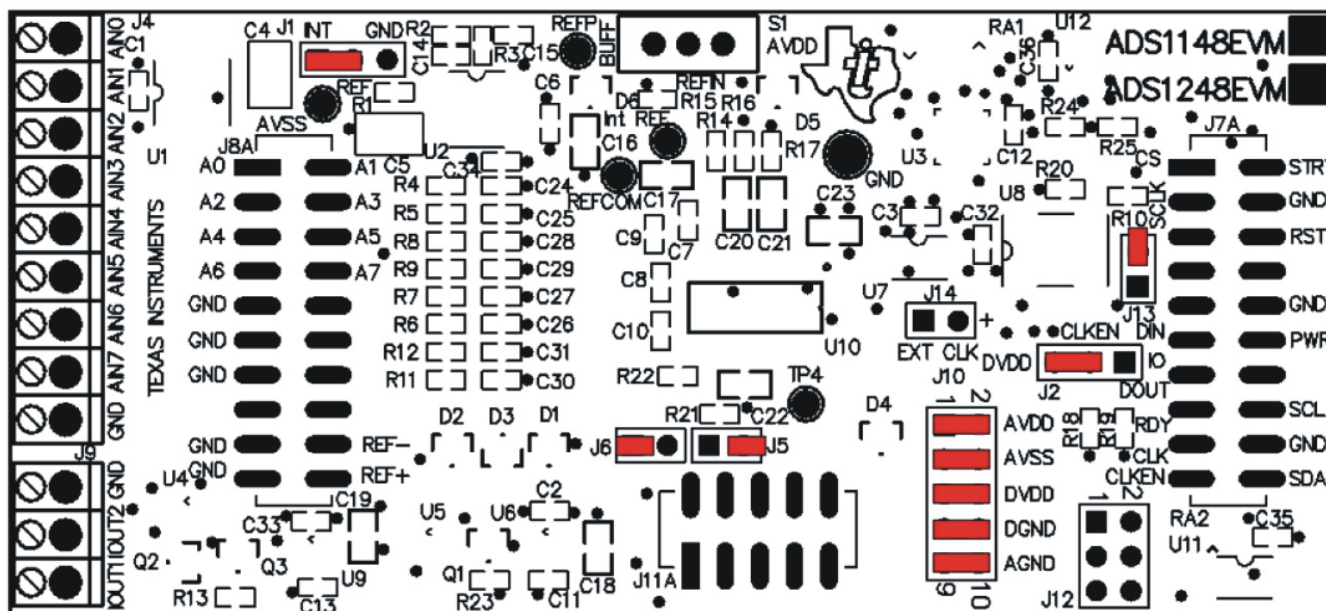

Figure 3. ADS1248EVM Default Jumper Locations
Figure 3 shows the jumpers found on the EVM and the respective factory default conditions for each.
- Step 4.** Set the jumpers and switches on the ADS1248EVM as shown in Figure 3 (note that these settings are the factory-configured settings for the EVM).